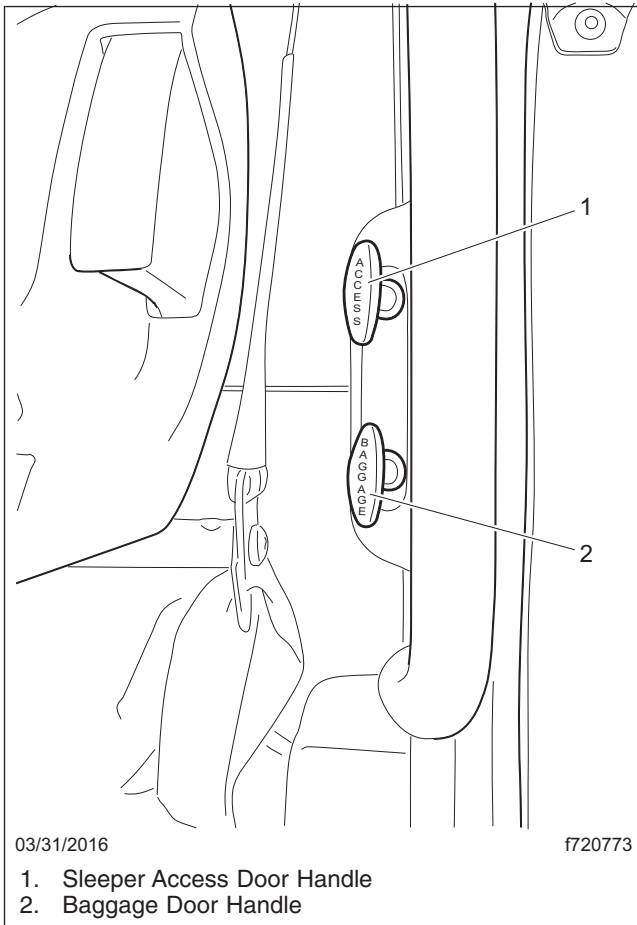

Fig. 2, Sleeper Door Release Handles
1. Open the baggage door and the sleeper access door (if equipped) by pulling the release handle(s) located inside the cab door opening. See Fig. 2.